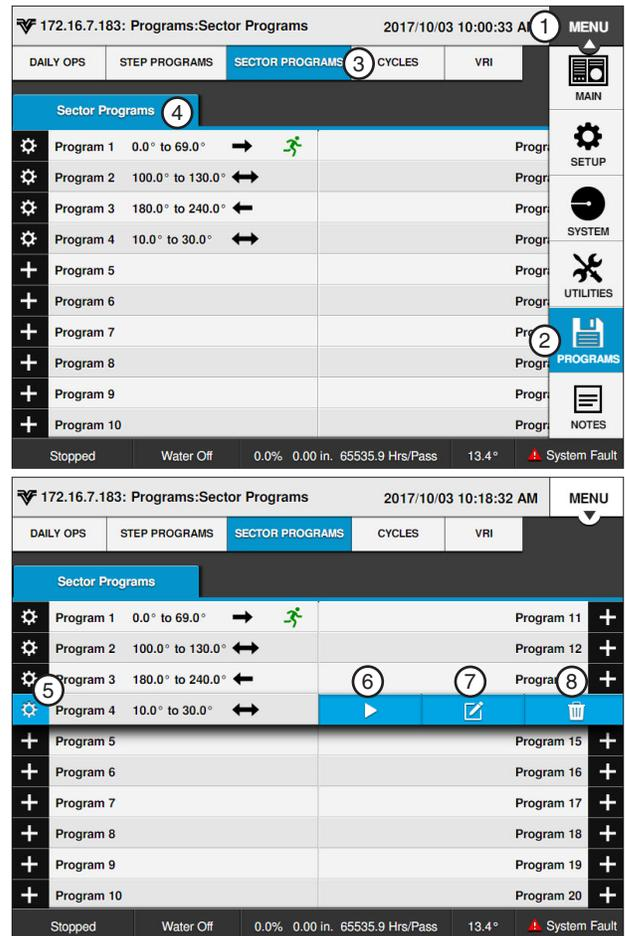

Figure 143-1 1. Menu 5. Settings
1. Push **Menu**, **Programs** and **Sector Programs** to view the Sector Programs screen. Refer to Figure 143-1.